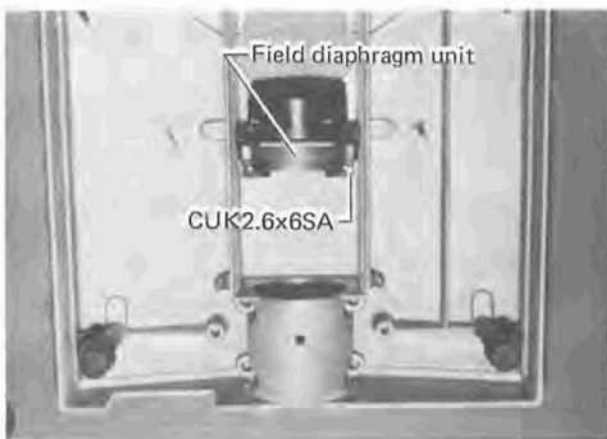

Fig. 5-5
- 5-2-1 By removing two Screws CUK2.6x6SA, detach the Field Diaphragm from the Base. (See Fig. 5-5.)